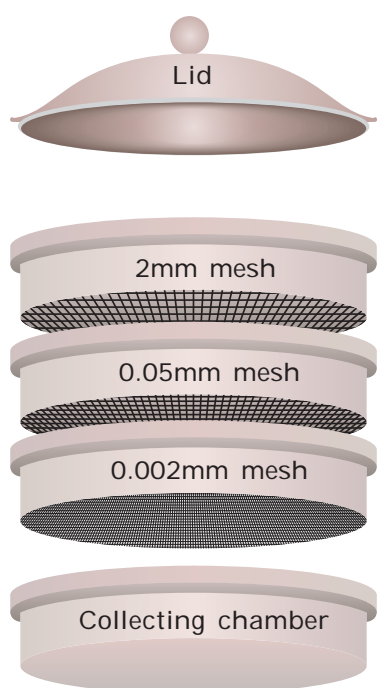

Fig.15.2 Sieve set
- (iii) Select the 3 sieves of different mesh sizes (2mm, 0.05mm and 0.002mm). Arrange them in a collecting chamber as shown in Fig. 15.2.